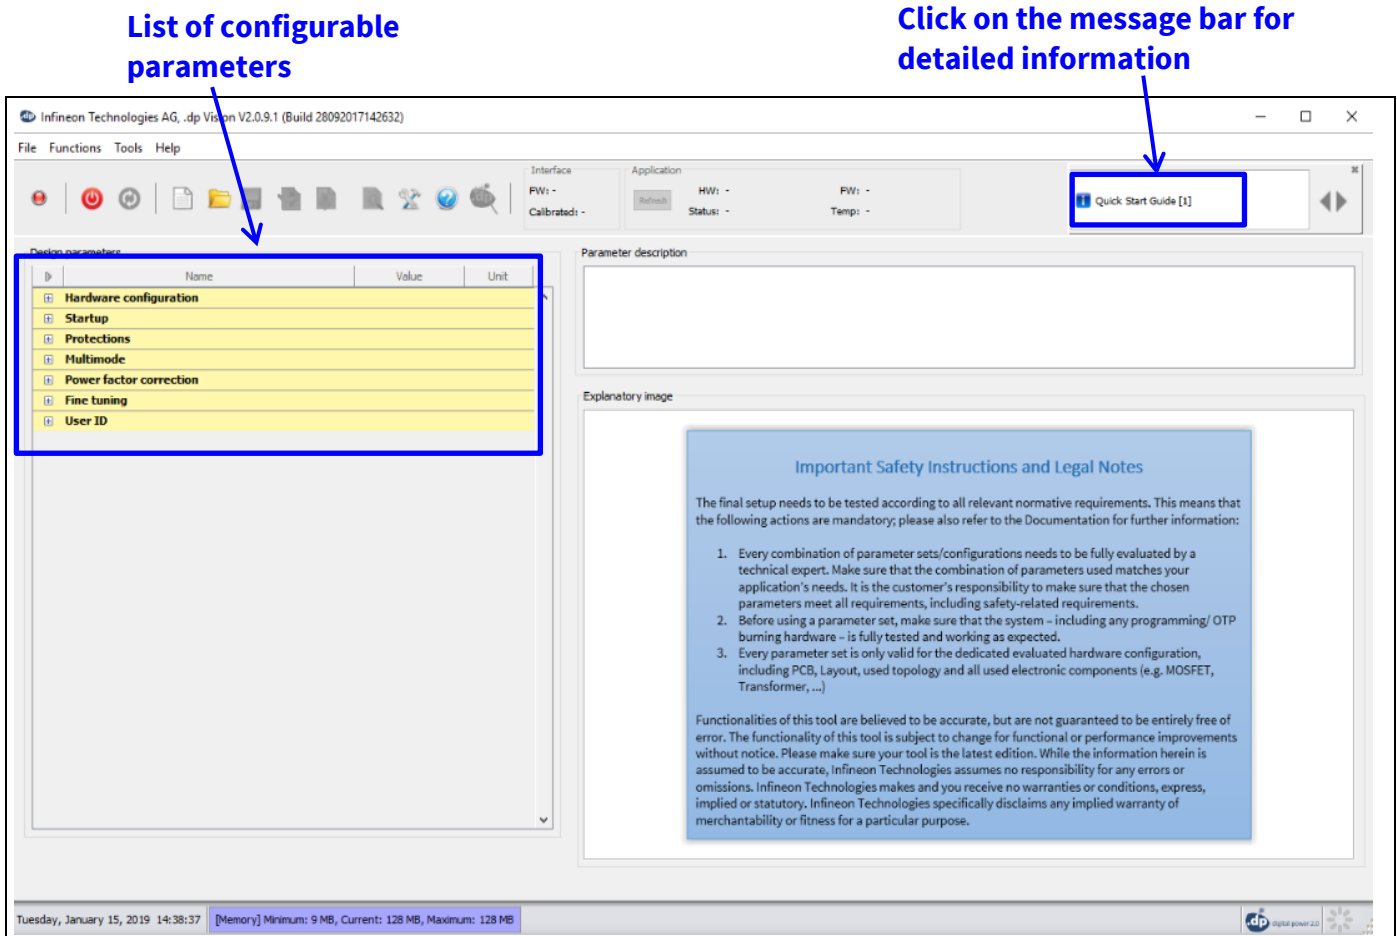

Figure 7 Parameters file loaded in .dp Vision
After loading the parameters .csv file, a list of XDPL8218 configurable parameters will show (see the box on the left in **Figure 7**). These values can be modified by users and will turn blue.
**Note:** The message bar shown in Figure 7 provides detailed information. For further information, please refer to the “dpvision User manual”.
1	Open configuration file and change parameter value (see example in <a href="#">Figure 7</a> ).
1	Load configuration file (see example in <a href="#">Figure 7</a> ).